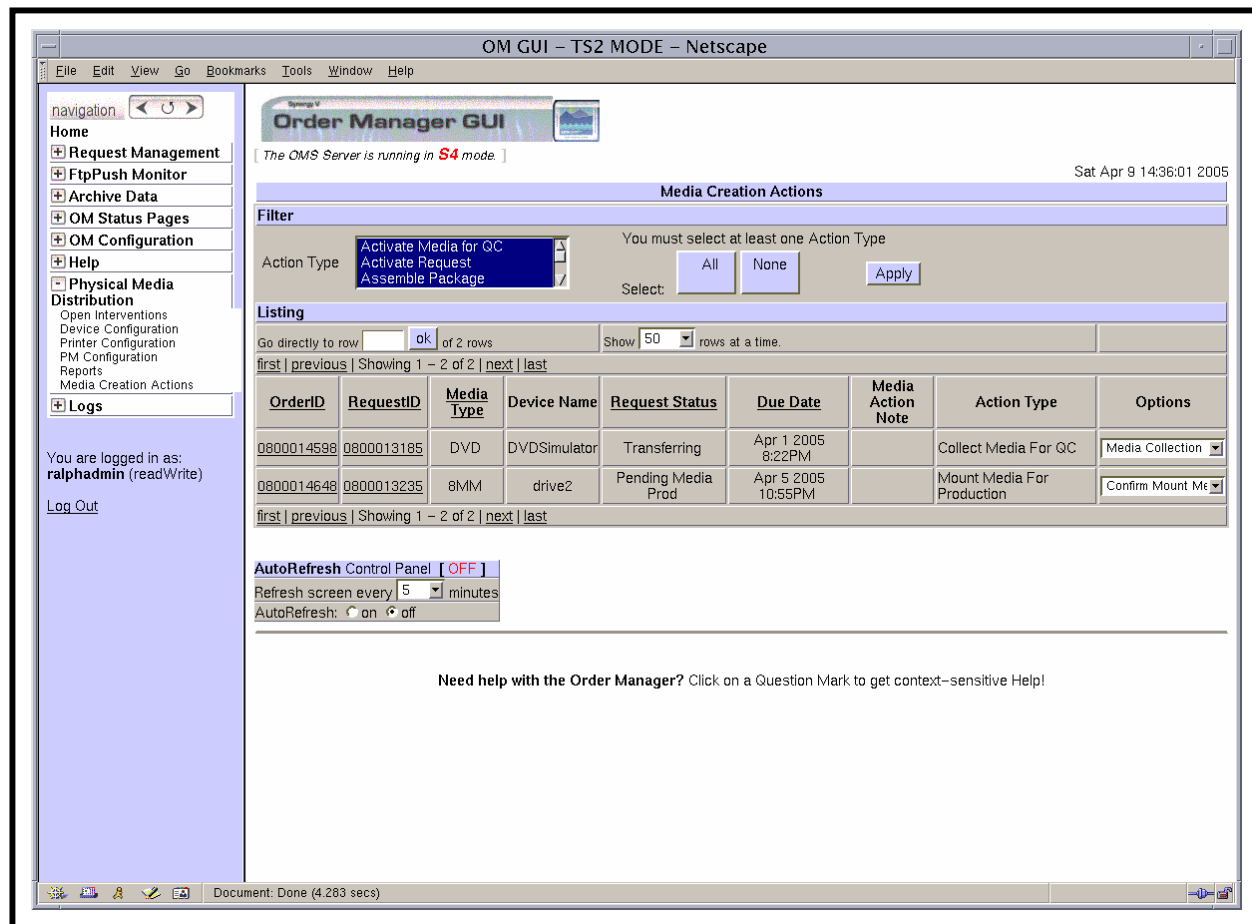

Figure 89. Media Creation Actions Page
The **Media Creation Actions** page (Figure 89) provides the full-capability operator with a means of performing various types of media creation actions.
- The **Media Creation Actions** page (Figure 89) is displayed.